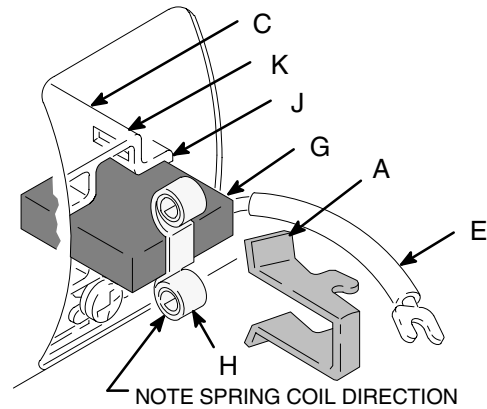

Fig. 6 01227
7. Fig. 6. Install new brush (G) with lead in long slot (J) of brush holder (C).
9. Fig. 6. Place spring (H) on brush (G).
10. Fig. 6. Install spring clip (A). Push down to hook short slots (K) in brush holder (C).